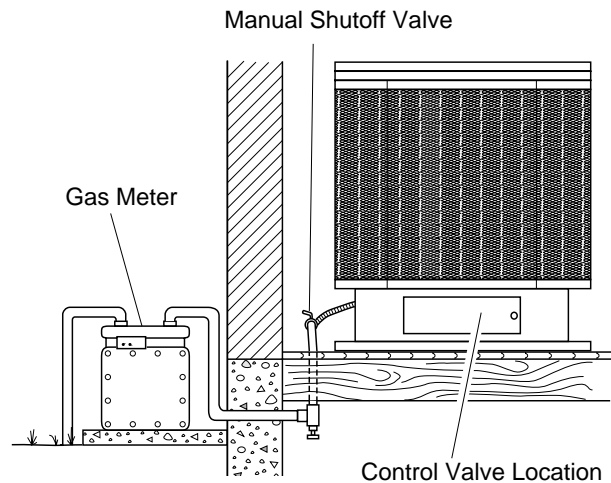

Figure 8 - Checking Gas Joints
3. Check all joints from gas meter to manual shutoff valve (see Figure 8). Apply mixture of liquid soap and water to gas joints. Bubbles forming show a leak.
4. Check all joints from manual shutoff valve to control valve (see Figure 8). Apply mixture of liquid soap and water to gas joints. Bubbles forming show a leak.